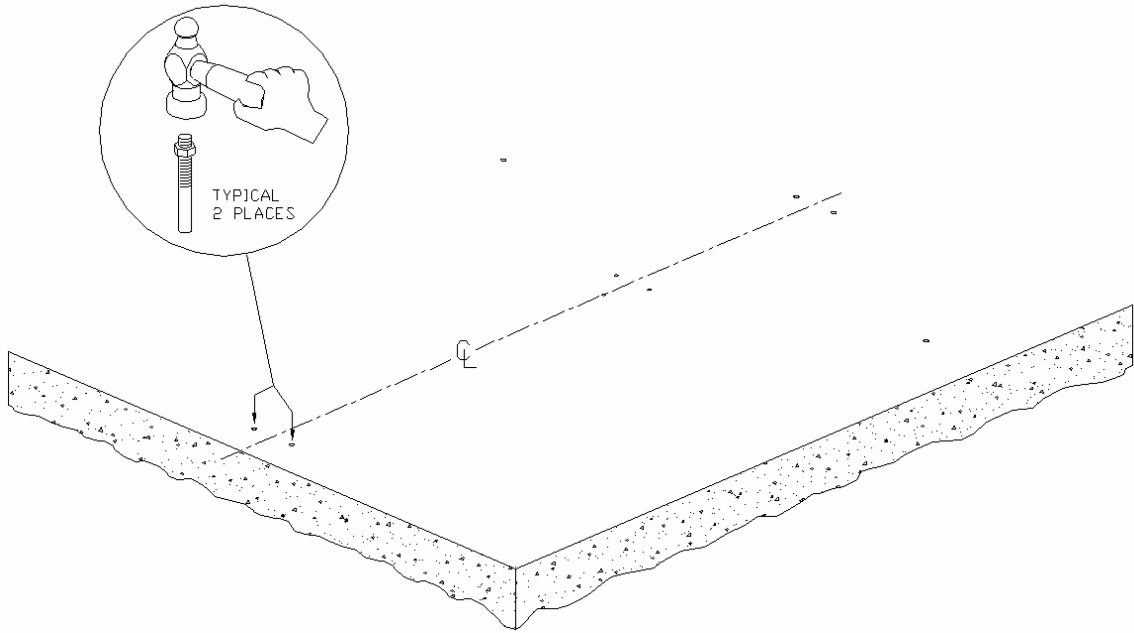

Figure 15
7. Locate holes (2) and drive in anchor studs for barrier post. See Figure 15. Allow one inch of